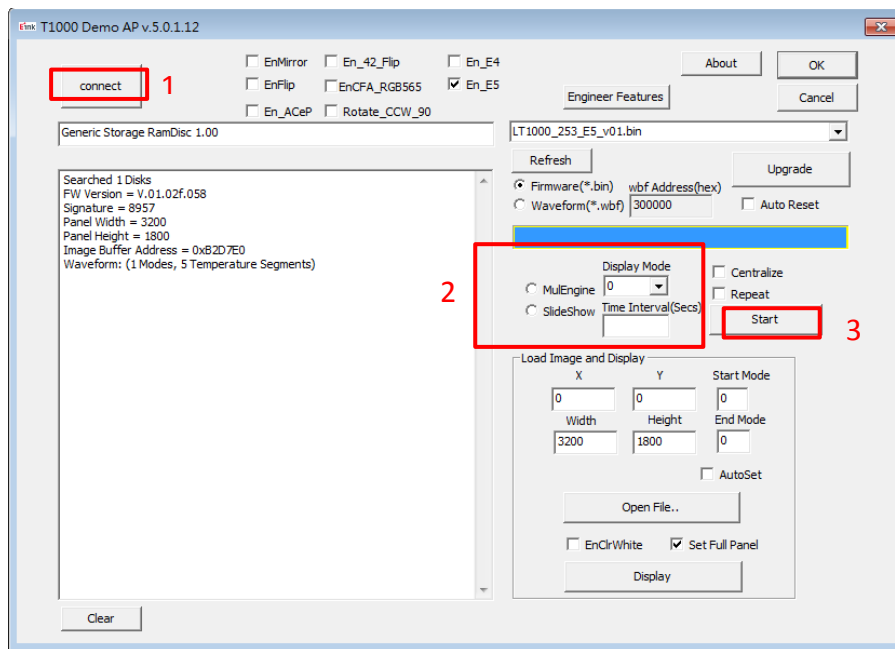

Figure 3.6
(4) How to slideshow
- ◆ Execute T1000 Demo AP(refer to Figure 3.6)